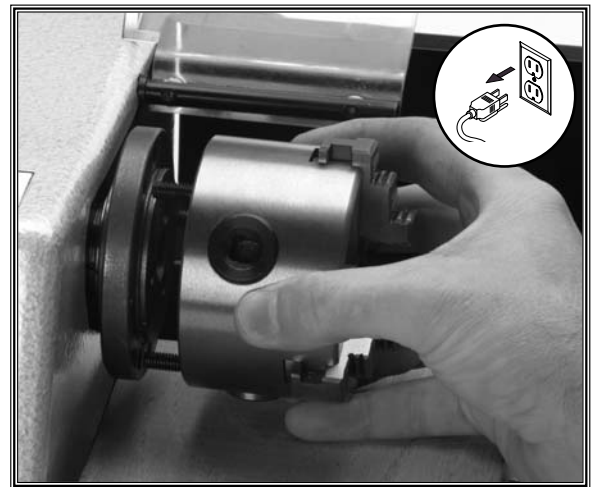

Figure 6. Positioning the chuck.
6. Align and seat the chuck onto the chuck-mounting flange and install the three M6-1 hex nuts onto the studs (see **Figure 6**).